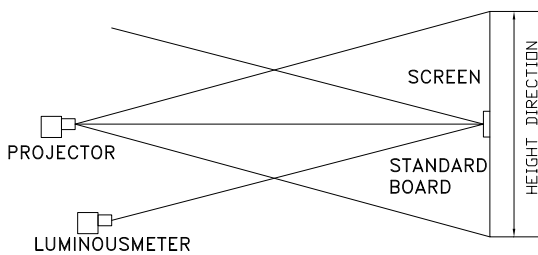

Fig.9 - Viewing angle measurement
- Viewing Angle Measurement: see the figure 9